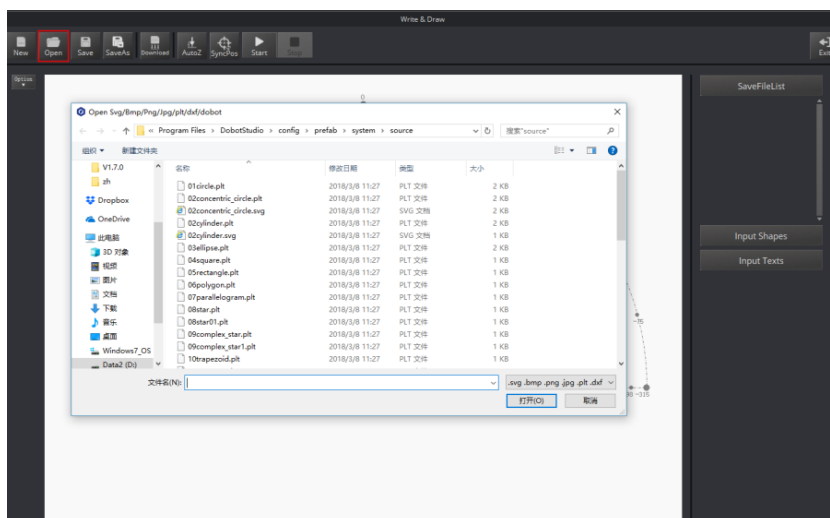

Figure 5.47 Open a PLT or SVG system image file
- Click **Open** on the **Write & Draw** page to import a built-in PLT or SVG image file from the DobotStudio installation directory **InstallatonDirectory\DobotStudio\config\prefab\system\source**, as shown in Figure 5.47. You can also import your custom PLT or SVG image file.